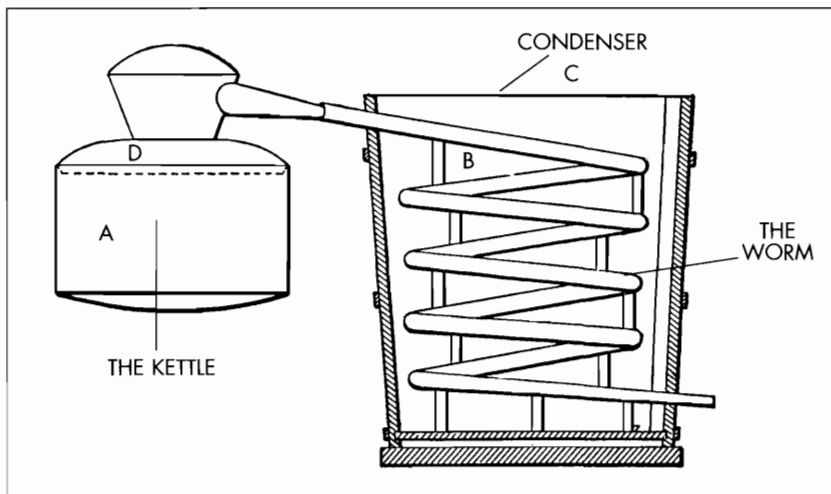

Figure 14-5. Simple still. Illustration courtesy of *Distillation of Alcohol & De-Naturing* by F. B. Wright (Lindsay Publications, 1994).
The equipment for distillation ranges from crude moonshine stills to very sophisticated equipment designed for commercial alcohol production. A simple still is shown in Figure 14-5. The boiler (A),